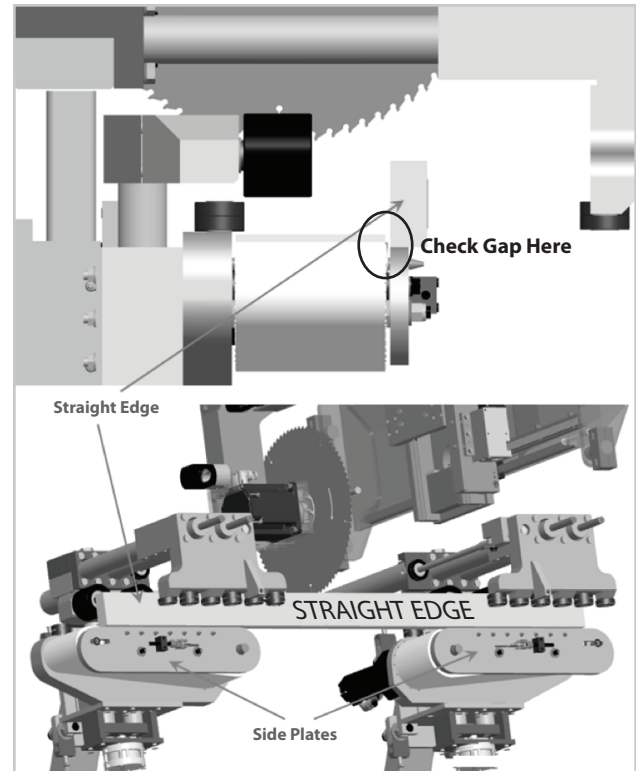

Figure 62
Step 2 – Place the straight edge on the side plates, as shown in Figure 62. Ensure the straight edge has no more than a .010" (.25mm) gap between both side plates.
Step 3 – With the straight edge on both side plates (or using a level), insure both L1 and L2 feeders are level. This is shown in Figure 62.